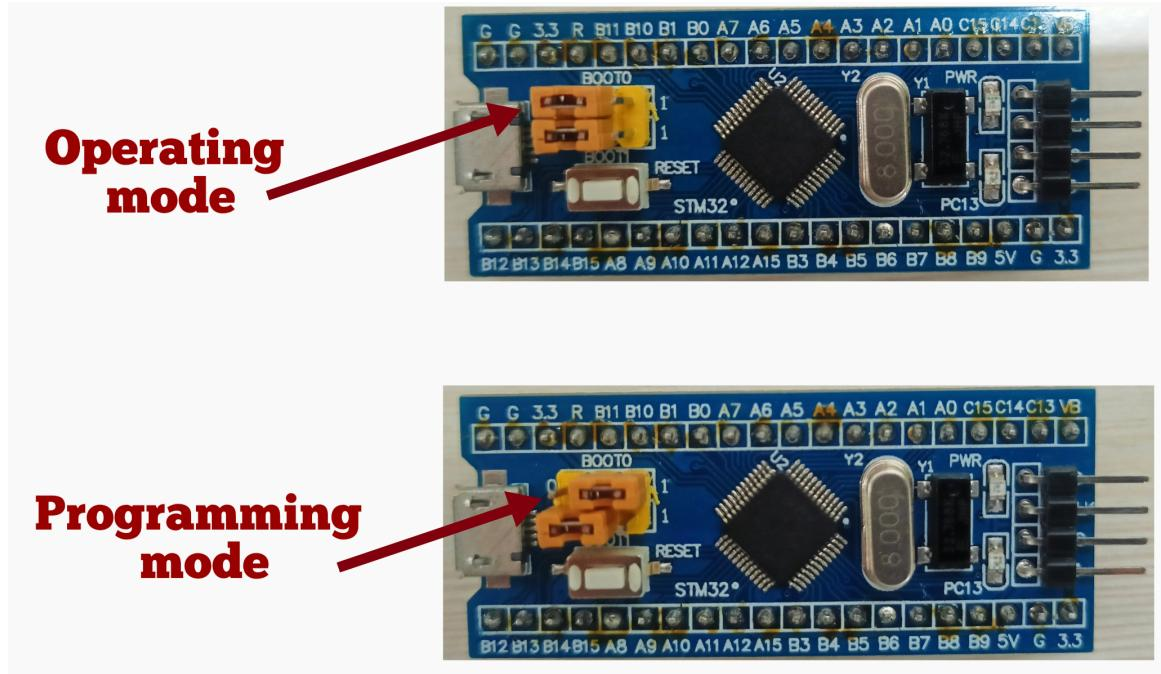

Figure 12.1.1.7.1: STM32 Operating and Programming mode
12.1.1.7. To make the stm32 board into Programming mode, by setting the aligners to programming mode as shown in Fig 12.1.1.7.1. This configuration will ensure that the microcontroller enters the system memory programmer on reset.
12.1.1.11. After flashing, the inbuilt LED present on the stm32f103c8 will start blinking and then change the STM32 board to operating mode as shown in Fig 12.1.1.7.1 inorder run your code from the main flash memory.
12.2.3.6. Before flashing code to STM32 set the STM32 board to Programming mode as shown in Fig. 12.1.1.7.1, then change the mode to Operating mode as shown in Fig. 12.1.1.7.1 after flashing the code inorder to run your program from main memory.
12.3.2.5. Before flashing code to STM32 set the STM32 board to Programming mode as shown in Fig. 12.1.1.7.1, then change the mode to Operating mode as shown in Fig. 12.1.1.7.1 after flashing the code inorder to run your program from main memory.